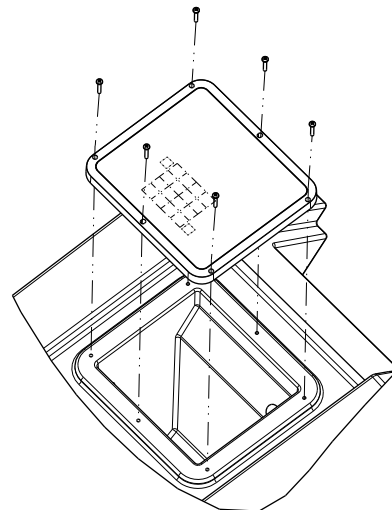

Figure 10: Remove control panel
- 12. Open the top cover of the sampler and remove the control panel mounting screws (see Figure 10).